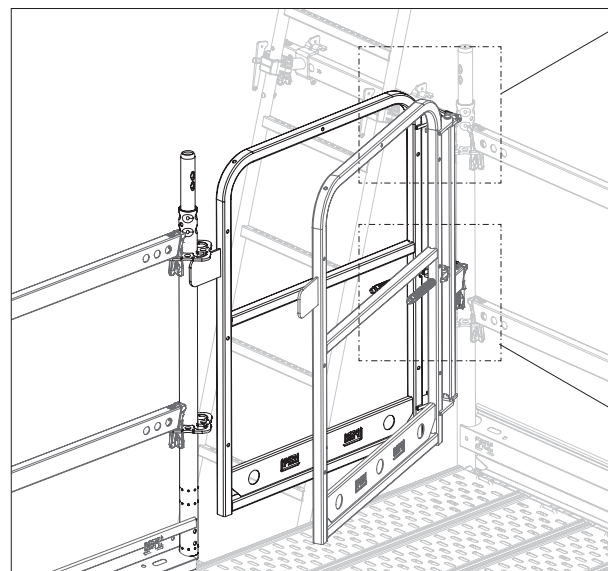

Fig. A5.12a
1. Install the safety entry gate with wedge (35.2) and suspension bracket (35.3) on the rosettes of the standard. (Fig. A5.12a – A5.12c)